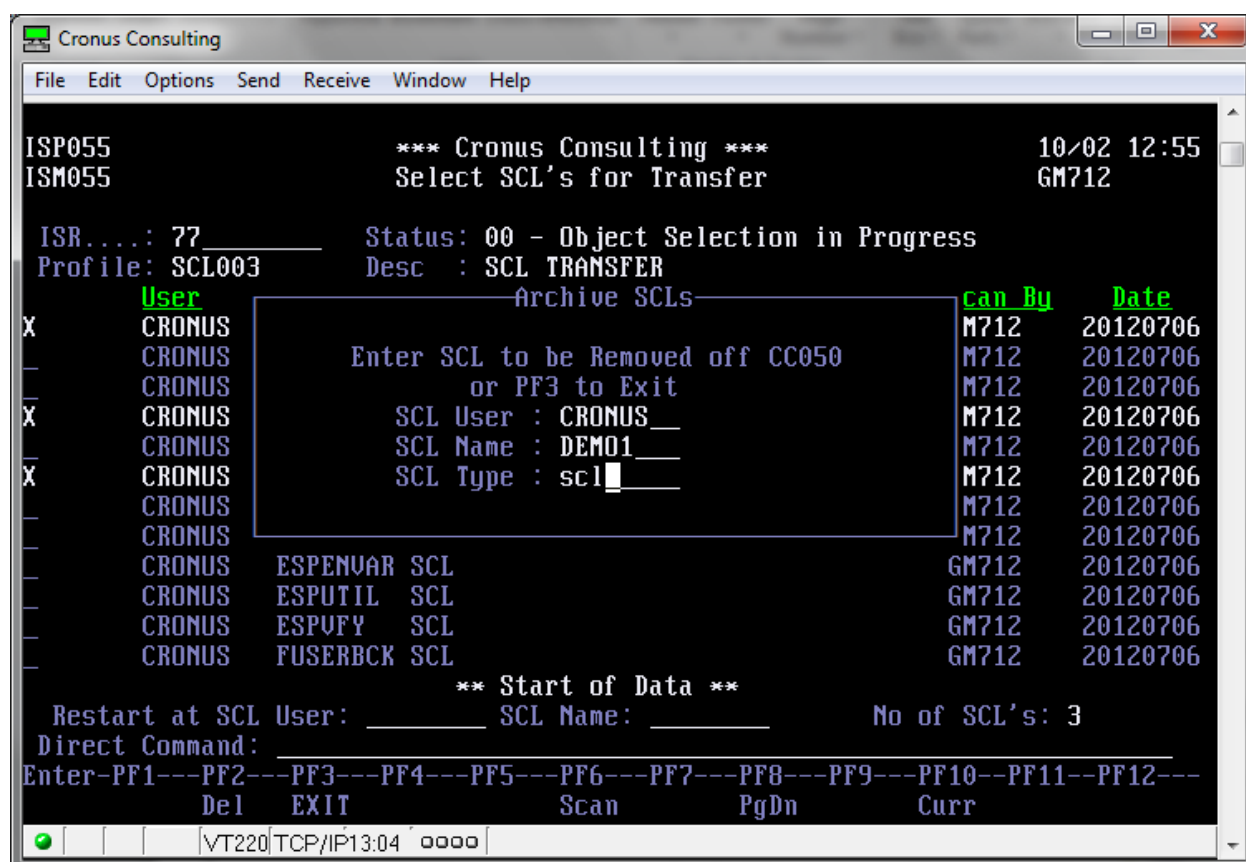

Figure A9: CC050 – SCL to be Removed
- PF2 – Delete SCL off the Inventory List. Unlike Objects which must be archived via CC250 when removing from the Inventory List in CC050, SCL's are not archived. The actual SCL does not get deleted from EspBatch, only the entry in CC050 gets removed, which means that no further migration will be possible for this SCL, but the SCL will still exist in all environments in EspBatch. Removal from EspBatch must be done via JS300 as is normal for SCL's. See figure A9.